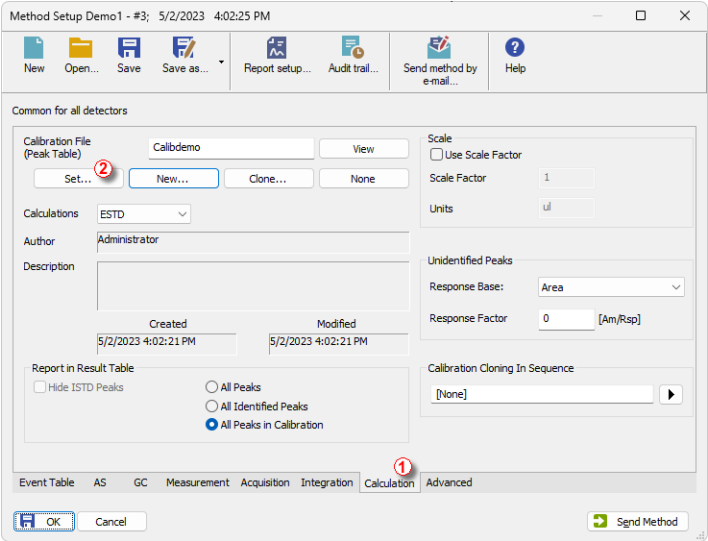

Fig. 14: Method Setup - the Calculation tab
- Return to the *Clarity Lite* window and use the *Method - Calculation...* command to open the *Method Setup* dialog directly on the *Calculation* tab ① as shown on **Fig. 14** on pg. 24. Alternatively, you can use any command from the *Method* menu and then move to the *Calculation* tab. All of these sections (and some others) are part of the template method; thus they are present within the same dialog but on different tabs.
- Use the *Set...* button ② to select the calibration file and link it to the method.